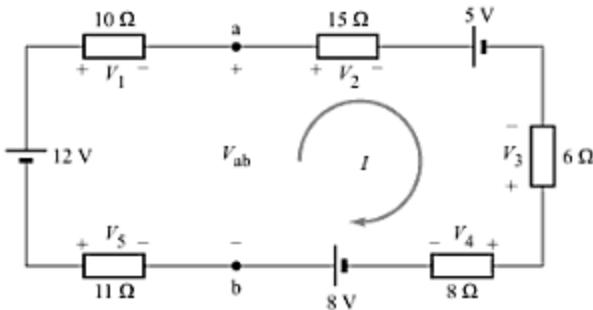

Fig. A-61
- A-13. Find the current and unknown voltages in the circuit shown in Fig. A-61. [Ans. 0.3 A , 3 V , 4.5 V , -1.8 V , 2.4 V , -3.3 V]
- A-14. Find the voltage V_{ab} in the circuit shown in Fig. A-61. [Ans. 5.7 V]